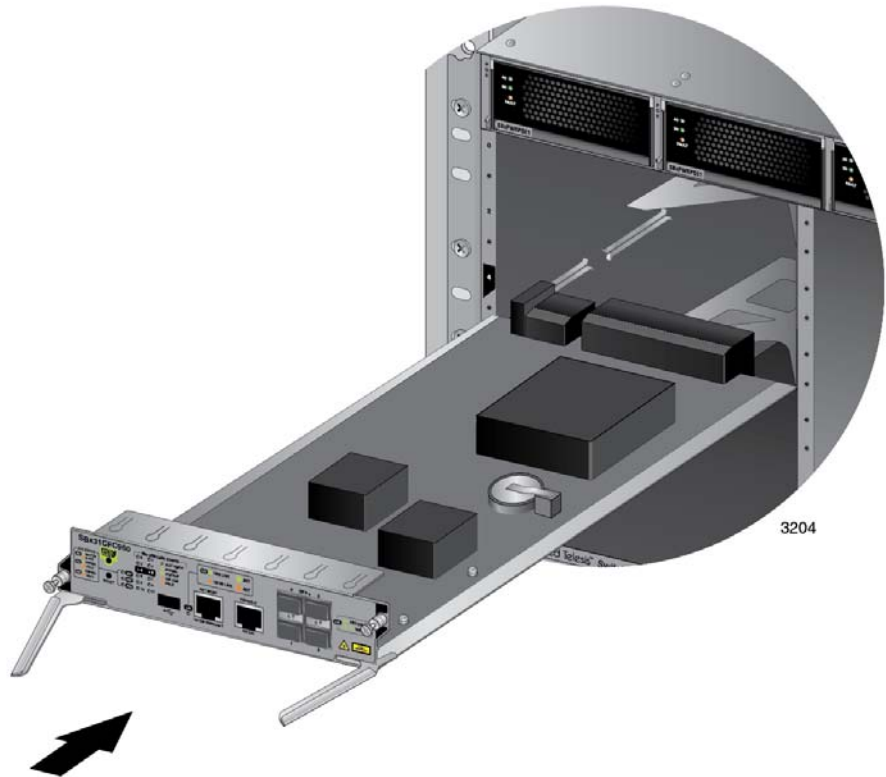

Figure 70. Aligning the AT-SBx31CFC960 Card in the Chassis Slot
6. Align the edges of the AT-SBx31CFC960 Card with the internal chassis card guides in slot 4 or 5 of the AT-SBx3112 Chassis. Figure 70 on page 131 shows the AT-SBx31CFC960 Card aligned in slot 4.